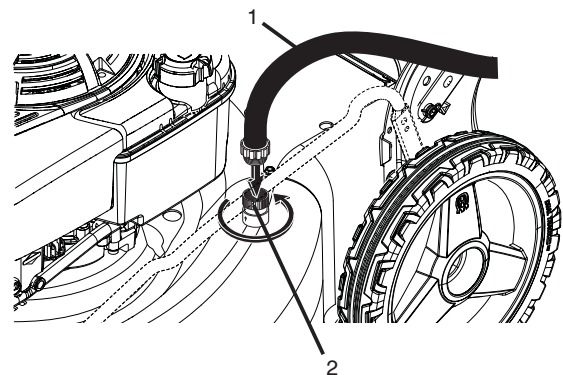

Figure 23
4. Connect a garden hose to the fitting where shown (Figure 23).